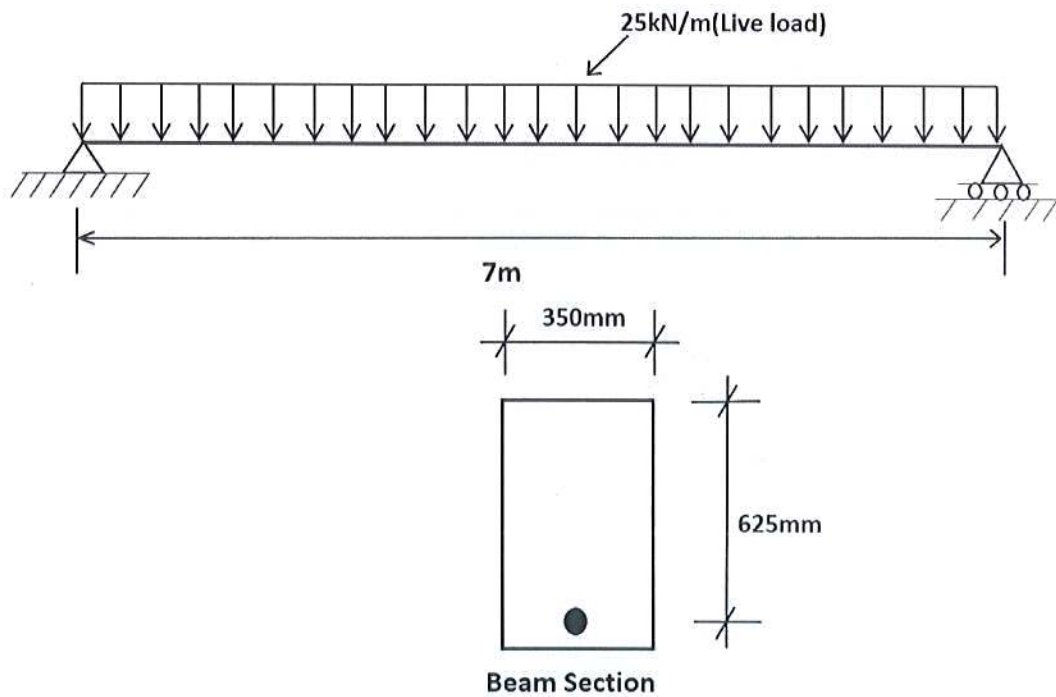

Fig:3
5. Design the beam for shear shown in Figure 3. Use  $F_y = 420$  MPa and  $f_c' = 28$  MPa. Calculate shear stirrups with 2 sets of spacing. Show the stirrups in a neat sketch. The live load of the beam is 25 kN/m and dead load 30 kN/m (excluding self-weight of beam). (20)